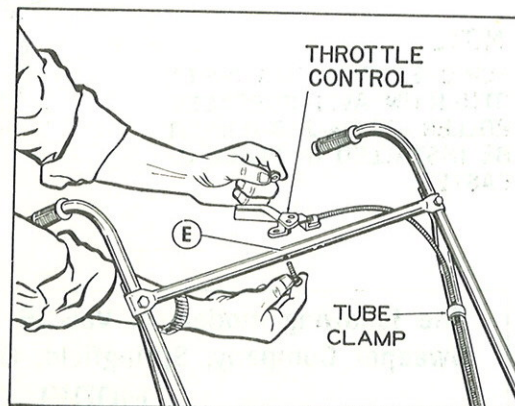

Figure 3
8. Take the throttle lever and run it under the top cross brace as shown in Fig. 3. Should the cable be too long, take the cross brace off and turn it around, then fit the throttle lever on with bolts and nuts. (Ref. 6 and 7, Fig. 7) (See step 3.)
NOTE: The Top Cross brace is provided with offset hole location for Engine Throttle. Assemble with holes closest to right side for the Briggs Engines and to the left side for Kohler Engines. Refer to Fig. 3.